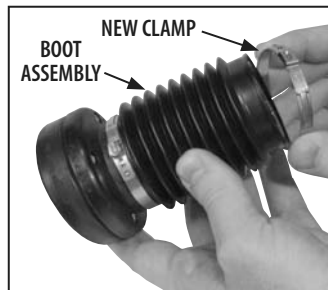

FIGURE 10
- 9) Place a new clamp (included in the kit) onto the new vapor boot assembly. (*Figure 10*)